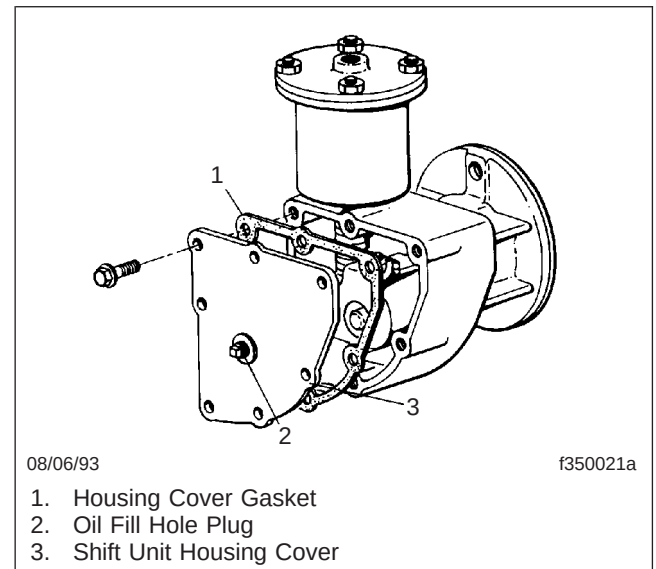

Fig. 2, Two-Speed-Axle Shift Unit
1. Clean the oil fill hole plug in the shift unit housing cover, and the area surrounding it. See Fig. 2. Remove the fill hole plug.
1. Remove the shift unit housing cover (Fig. 2), and drain the old lubricant. Discard the housing cover gasket, and the old lubricant.